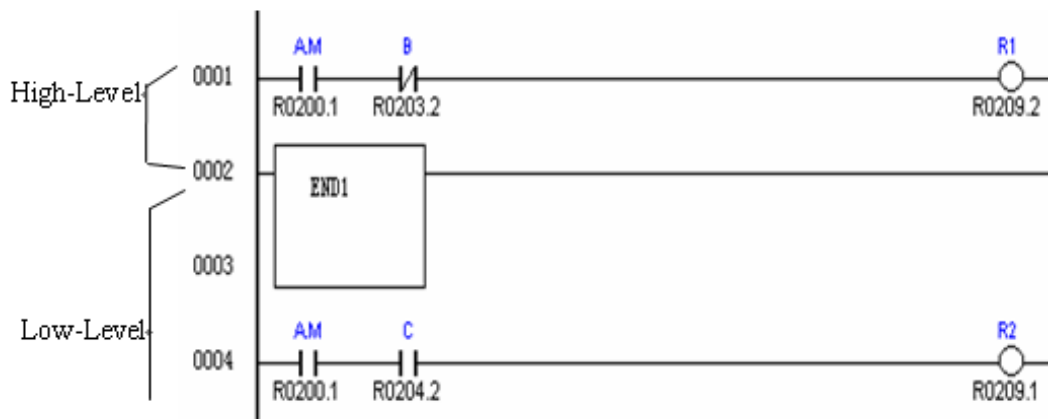

Fig1.
- 1) In fig 1, when R1 is turn on, R2 may not be turn on.